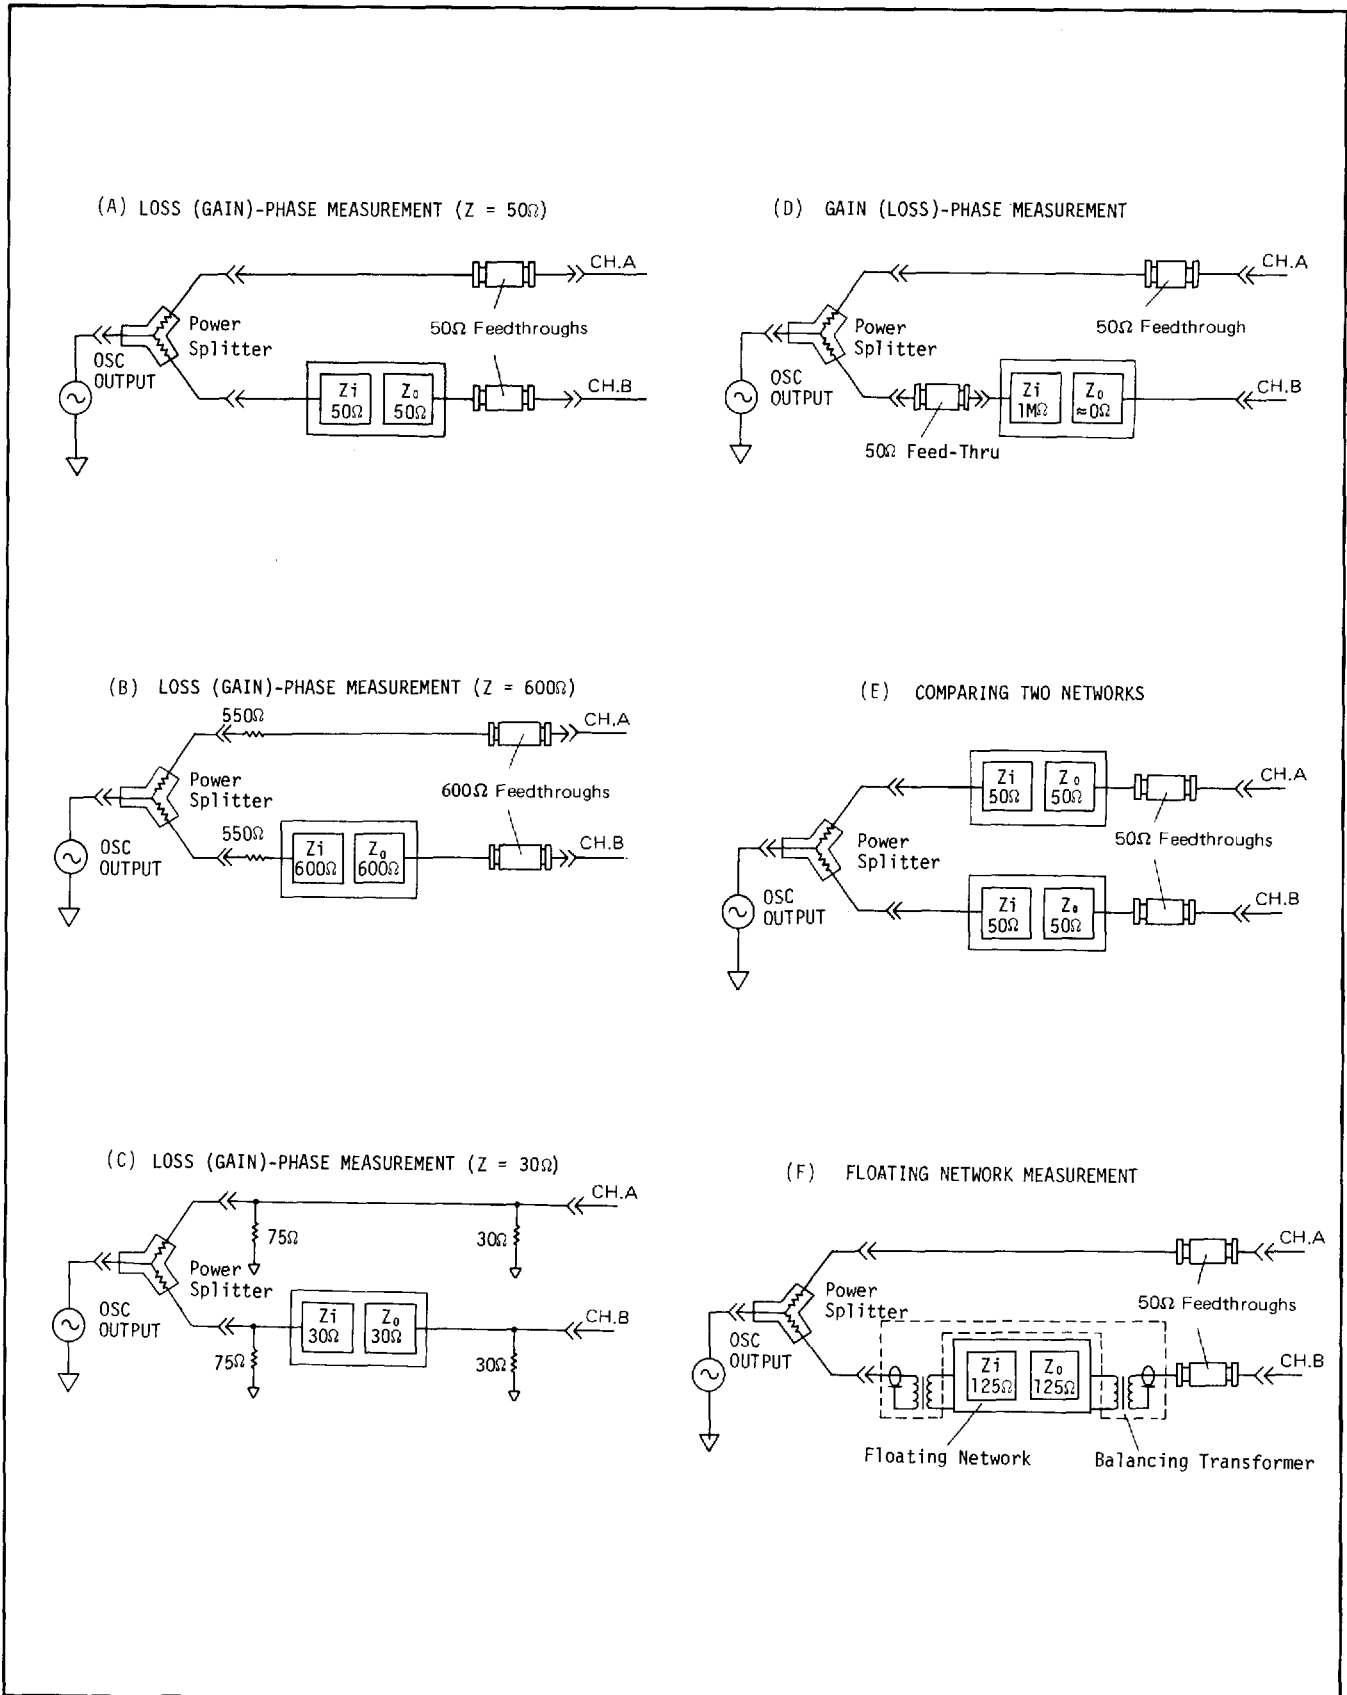

Figure 3-8. Input Configurations
3-47. Figure 3-8 illustrates and describes the basic input configurations for various types of measurements. Connections of these input configurations should be made using double-shielded cables with BNC connectors as listed in Table 3-9. When making input connections, observe the following guidelines:
Note: When making a relative gain/loss (B-A) measurement with either the 4192A or a Network Analyzer using the input configurations shown in Figure 3-8, the measurement results are the same but those of an absolute amplitude (A/B) measurement may differ. This is because the 4192A uses a passive (2-resistor) power splitter and the Network Analyzer uses an active power splitter.
3-49. In most measurement applications the network under test must be driven and terminated in its characteristic impedance. If the characteristic impedance of the network matches the 50Ω output impedance of the 4192A OSC OUTPUT, the network can be connected directly to the OSC OUTPUT through the power splitter as shown in Figure 3-8 (A). In this case, both the reference input and test input should be terminated with a 50Ω Feedthrough and connected to CHANNEL A and CHANNEL B, respectively.
3-50. If the characteristic impedance of the network is greater than 50Ω, a compensating resistor can be added in series with the OSC OUTPUT between the power splitter and the network to obtain the required output impedance. For example, if the input impedance of the network is 600Ω, a 550Ω resistor can be added in series with the 50Ω output to obtain the required 600Ω as shown in Figure 3-8 (B). Note that the reference input shown in Figure 3-8 (B) also has a compensating resistor to maintain identical impedances in both channels. In this case, both the reference input and test input should be terminated with a 600Ω Feedthrough and connected to CHANNEL A and CHANNEL B respectively.
For example, if the input impedance of the network is 30Ω, a 75Ω shunt resistor can be added in parallel with a 50Ω output to obtain 30Ω as shown in Figure 3-8 (C). Note that the reference input shown in Figure 3-8 (C) also has a shunting resistor to maintain identical impedances in both channels. In this case, both the reference input and test input should be terminated with the 30Ω shunt resistor and connected to CHANNEL A and CHANNEL B, respectively. When driving an impedance lower than 50Ω, a certain amount of insertion loss will be encountered. The amount of loss depends on the type of impedance matching network used and on the various impedance ratios. Whenever a loss is encountered, an equal loss should be introduced in CHANNEL A so that the reference input accurately represents the input of the network. This can be accomplished by placing identical shunt resistances and identical terminations in both channels.
3-52. When the network to be tested has a high input impedance (1MHz) and low output impedance ($\approx 0\Omega$), each channel should be terminated with a 50Ω Feedthrough and then the network can be connected to CHANNEL B as shown in Figure 3-8 (D).
3-53. Deviation measurement from reference network can be performed by inserting the standard network between the power splitter and CHANNEL B. Figure 3-8 (E) shows an input configuration of networks which have 50Ω characteristic impedance. In this case, both the
3-54. Floating networks can be measured by floating from the measuring circuit using one of the balancing transformers listed in Table 3-11. Figure 3-8 (F) shows the input configuration of a network which has 125Ω characteristic impedance. In this case, both the reference